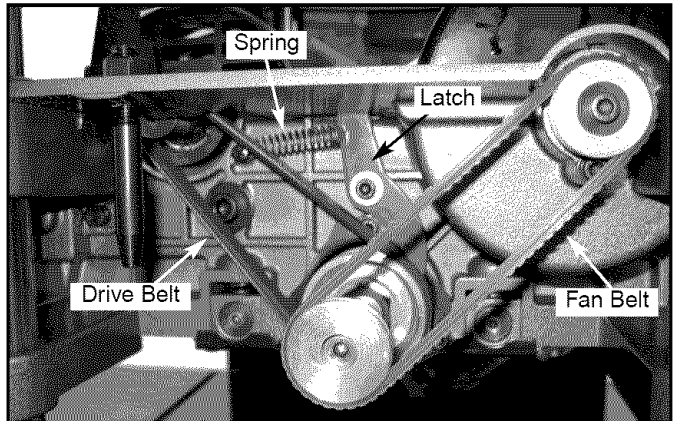

Figure 29 – Right Side of Planer with Side Cover Removed
- Disengage the spring from the latch so that the pulleys will turn freely (see Figure 29).